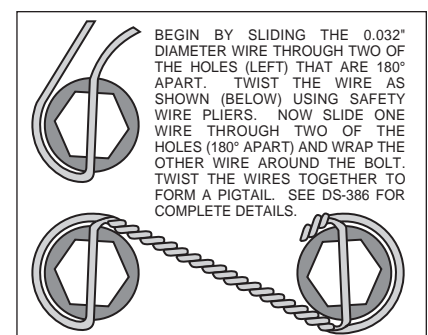

Figure 4. Safety Wire Diagram
- Slide the bracket kit assembly (1) onto the housing flange and then insert the axle assembly through the center hole of the bracket kit assembly (1). Secure using the stock Original Equipment Manufacturer (OEM) bolts and nuts. Stock OEM hex nuts that retain the bracket kit assembly (1) should be on the wheel side of the bracket. Apply red *Loctite*® 271 to the stock OEM bolt threads and torque to OEM specifications. Make sure the bracket kit assembly (1) brake pads are FACING OUTWARD TOWARDS THE WHEEL.
- With the larger I.D. side of the rotor (3) facing away from the hat (2), bolt rotor (3) to hat (2) through the backside of the rotor using washers (4) and bolts (5). Using an alternating sequence, apply red *Loctite*® 271 to the threads and torque bolts to 155 in-lb. For an added measure of security, the bolts may be safety wired using standard 0.032 inch diameter stainless steel safety wire as shown in Figure 4. Please refer to Wilwood's data sheet DS-386 for complete safety wire installation instructions.
- Align the correct hole pattern in the hat (2) with the stud pattern on the axle flange. **NOTE:** Some OEM and aftermarket axles come with stud sizes larger than 0.50" diameter. Verify stud size and have a qualified machine shop drill the hats to the correct size, if necessary. Slide the hat/rotor assembly (2 and 3) over the wheel studs covering the bracket kit assembly (1) and against the axle flange face. Check to be sure the hat seats squarely against the hub. Install a couple of lug nuts (finger tighten) to keep the rotor/hat assembly in place while continuing with the installation.